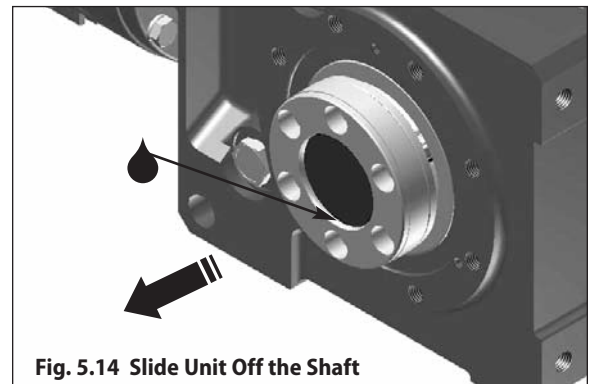

Fig. 5.14 Slide Unit Off the Shaft
**Step 7** – After releasing the bushing, apply a liquid penetrant to the shaft where it contacts the bushing. Allow time for the liquid to penetrate between the bushing and the shaft, then carefully slide the unit off of the shaft. (see Fig 5.14). **Note: If the bushing releases, but the unit cannot be removed from the shaft, apply a puller to the bushing to push the shaft free.**